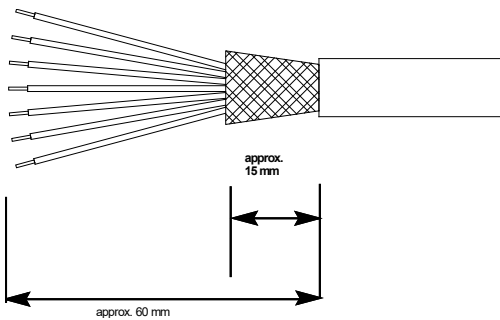

Figure 3-2 Stripping of Connection Cable
- Strip the cable over a length of 60 mm, see Figure 3-2.